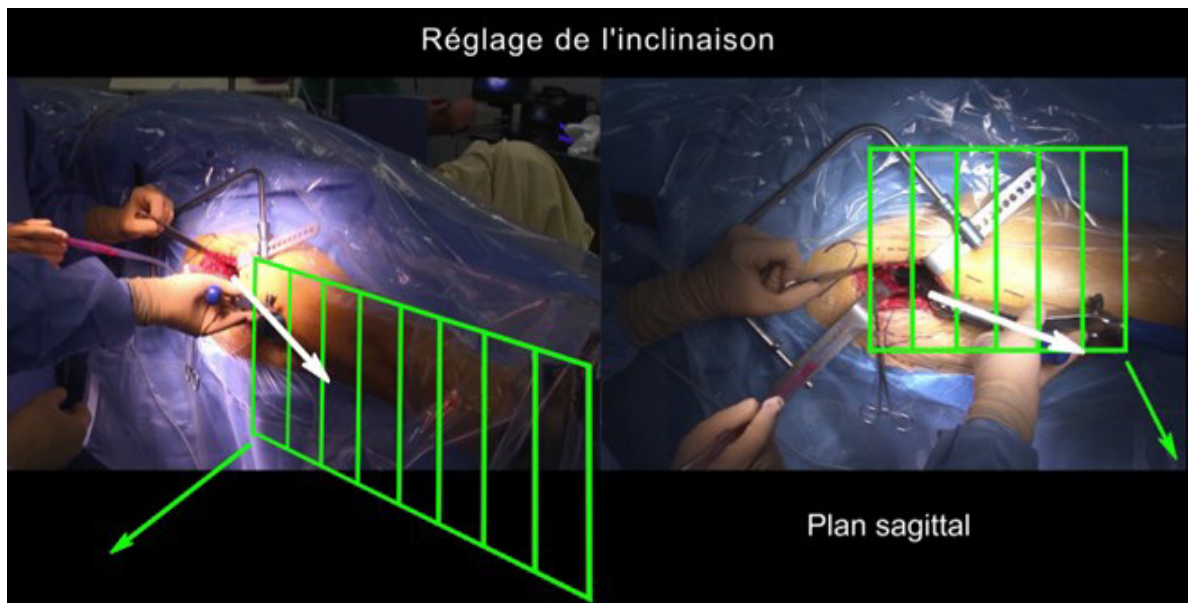

figure 14 (The orientation of the green grid represents the sagittal plane)
- External landmark: The cup holder is used as an external landmark. It allows adjustment of anteversion and inclination in the sagittal and frontal planes (Figures 14 and 15).